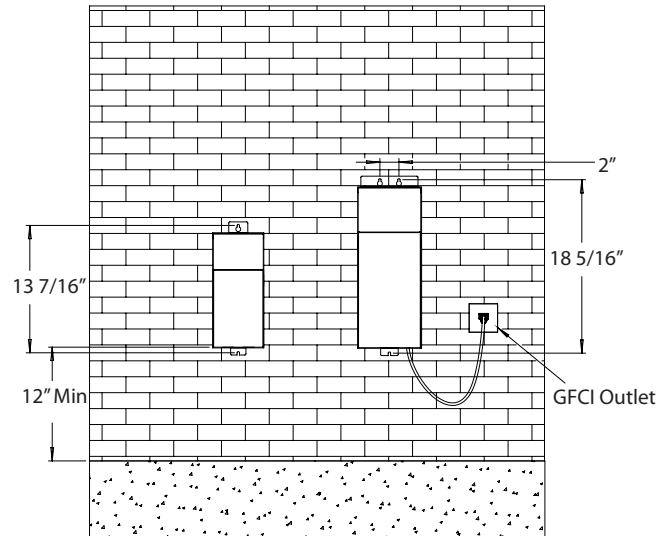

Fig. 1
1. Carefully locate and install the power supply so that it is not in contact with insulation or combustible materials. Provide minimum of 12 inches of airspace around the power supply. Transformer must also be mounted a minimum of 12 inches above grade. (**Fig. 1**)
2. Securely mount the power supply using the mounting brackets on the power supply enclosure. Drill screw holes at the right locations (see dimensions in **Fig. 1**) and make sure use appropriate screws for the selected mounting surface.